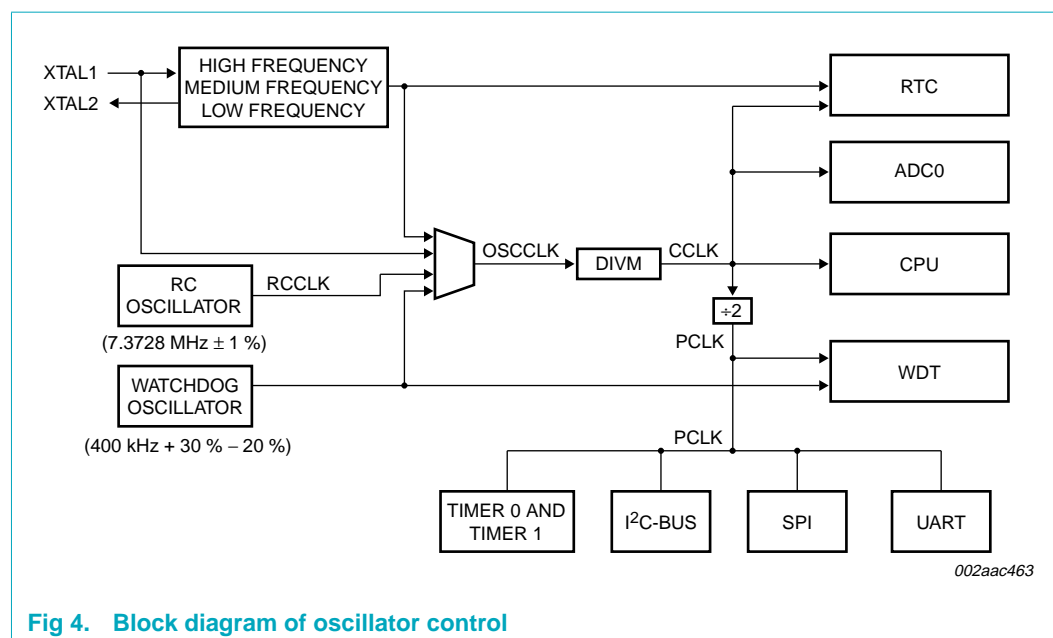

Fig 4. Block diagram of oscillator control
**OSCCLK** — Input to the DIVM clock divider. OSCCLK is selected from one of four clock sources (see Figure 4) and can also be optionally divided to a slower frequency (see Section 7.8 “CCLK modification: DIVM register”).